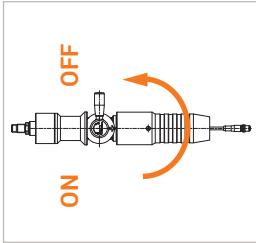

Figure 8
- ▶ Turn the actuation lever (Pos. 3) on the fueling nozzle through 180° to the OFF position (Figure 8).